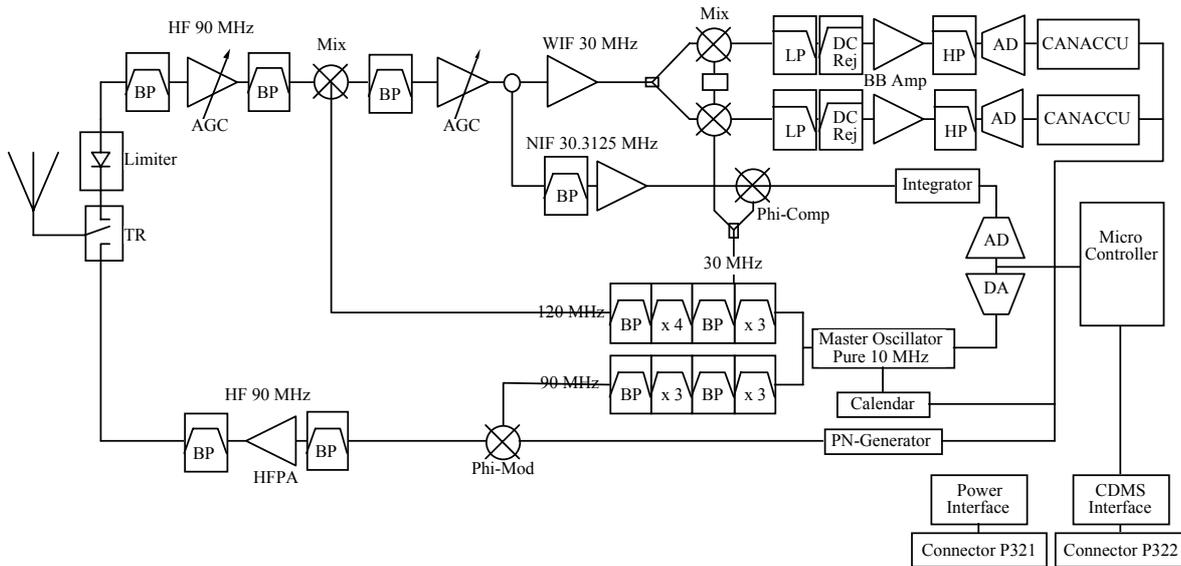

Figure 1.3. : Electronic box of the CONCERT experiment.
In figure 1.3., a complete Schematic of CONCERT experiment on the Lander is given. At the left is the antenna, which is connected to the Transmit and Receive (TR) switch. The upper part of the figure shows the receiver. From left to right, one can recognize the Radio Frequency section, with Front End Amplifier (FEA), Band Pass filters, automatic gain control (AGC), then a mixer with a 120 MHz Local Oscillator. It is followed by a wide band intermediate frequency section (WIF) at 30 MHz feeding the in-phase and in-quadrature detectors. A low pass filter is provided for both I and Q base band amplifiers (WBB) and a high pass section is present to eliminate DC components. Each receiver section (RF, WIF, and WBB) has a maximum gain of about 30 dB and each AGC gain takes a value between 0 and -31 dB. Therefore, the total gain of the analog part takes a value between 28 and 90 dB. The in-phase and in-quadrature signals are converted by two 8-bits analog to digital converters. The accumulation, realized in the coherent integrator system (CANACCU) and the tuning Phase Locked Loop (PLL) will not be considered here. The bottom part of the diagram corresponds to the Transmitter with a shift register pseudo-noise (PN) generator, frequency multipliers, a phase modulator and a power amplifier.